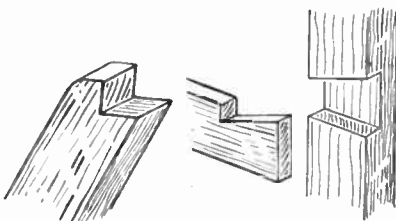

Fig. 4 Top of leg; Fig. 5—Dovetail of crossrail
The tops of pieces (B) will look as shown in Fig. 4. Rails (D) are cut from ¾in. stuff, 4½ins. wide. The ends can be left projecting and then sawn off in line with the legs (B) after being fixed with screws. Before this is fixed, however, brackets (E) are attended to, as they have to be screwed to part (D), and this cannot conveniently be done after (D) has been fixed.